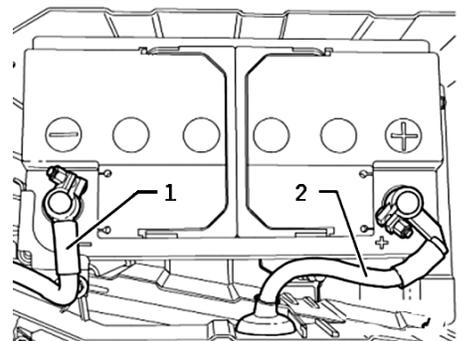

Fig. 6 Battery cable disconnect
11. Disconnect ground cable (1) from battery, Fig. 6.
12. Disconnect positive cable (2) from battery, Fig. 6.
5. Connect positive cable (2) to battery and **torque** to 53 inch lbs., Fig. 6.
6. Connect ground cable (1) to battery and **torque** to 53 inch lbs., Fig. 6.